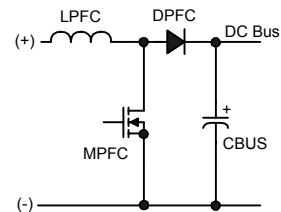

Figure 6: Boost-type PFC circuit
In most electronic ballasts it is necessary to have the circuit act as a pure resistive load to the AC input line voltage. The degree to which the circuit matches a pure resistor is measured by the phase shift between the input voltage and input current and how well the shape of the input current waveform matches the shape of the sinusoidal input voltage. The cosine of the phase angle between the input voltage and input current is defined as the power factor (PF), and how well the shape of the input current waveform matches the shape of the input voltage is determined by the total harmonic distortion (THD). A power factor of 1.0 (maximum) corresponds to zero phase shift and a THD of 0% represents a pure sinewave (no distortion). For this reason it is desirable to have a high PF and a low THD. To achieve this, the IR2166 includes an active power factor correction (PFC) circuit which, for an AC line input voltage, produces an AC line input current. The control method implemented in the IR2166 is for a boost-type converter (Figure 6) running in critical-conduction mode (CCM). This means that during each switching cycle of the PFC MOSFET, the circuit waits until the inductor current discharges to zero before turning the PFC MOSFET on again. The PFC MOSFET is turned on and off at a much higher frequency (>10KHz) than the line input frequency (50 to 60Hz).